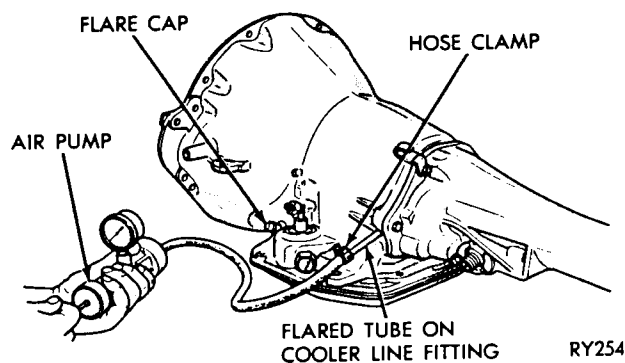

Fig. 13—Pressurizing Transmission
(4) Attach and clamp hose from the nozzle of Tool C-4080 to tubing which is on the rear cooler line fitting (Fig. 13).
(5) Pressurize the transmission using Tool C-4080 until the pressure gauge reads 8 psi. Position transmission so that pump housing and case front may be covered with soapy solution or water. Leaks are some-